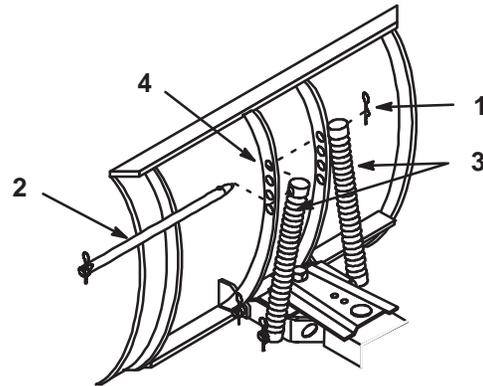

Figure 19
The blade trip springs can be mounted in 4 positions. The top hole provides greatest scraping pressure and the lower hole least scraping pressure (Fig. 19).
1. Remove hairpin cotter and slide rod out from blade and springs (Fig. 19).
2. Slide rod through springs and new hole position in blade (Fig. 19).